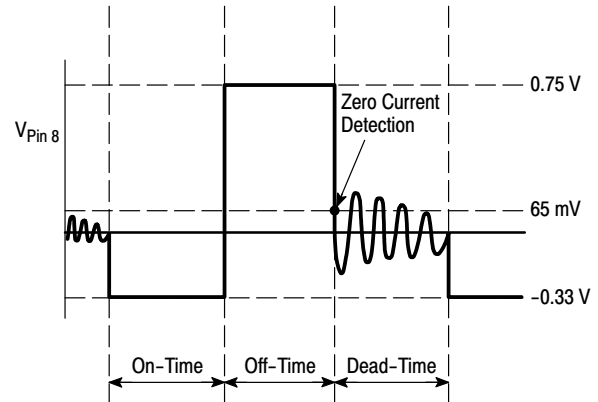

Figure 38. Demagnetization Detection
- equal to zero for the dead-time with generally some ringing (refer to Figure 38).